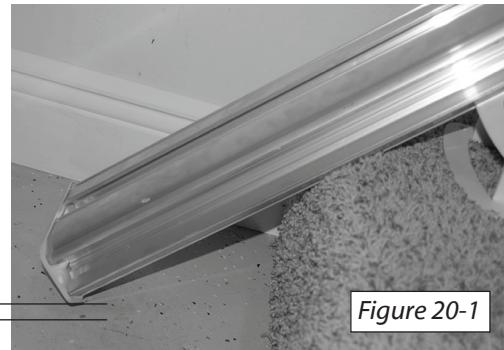
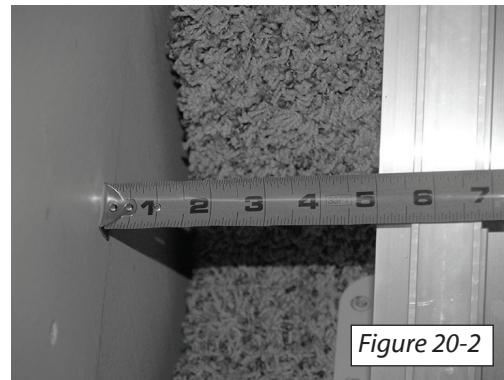

Figure 20-1
Figure 20-2
1. Set the lower section of rail onto the steps. The bottom of the rail should be resting on the stair nosings and the bottom end should be $1/4" - 1/2"$ off of the floor at the bottom landing [Figure 20-1]. Position the rail 5 in. [Figure 20-2] from the wall or any protruding object.